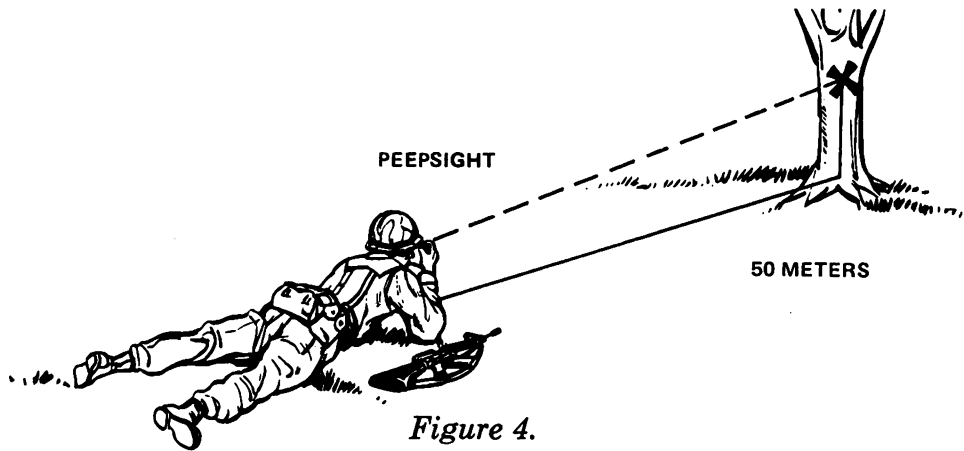

Figure 4.
a. Select an aiming point (tree, large rock, etc.) approximately 50 meters (150 feet) to the front of the mine and approximately 2½ meters (8 feet) above the ground using the slit-type peepsight (figure 4).